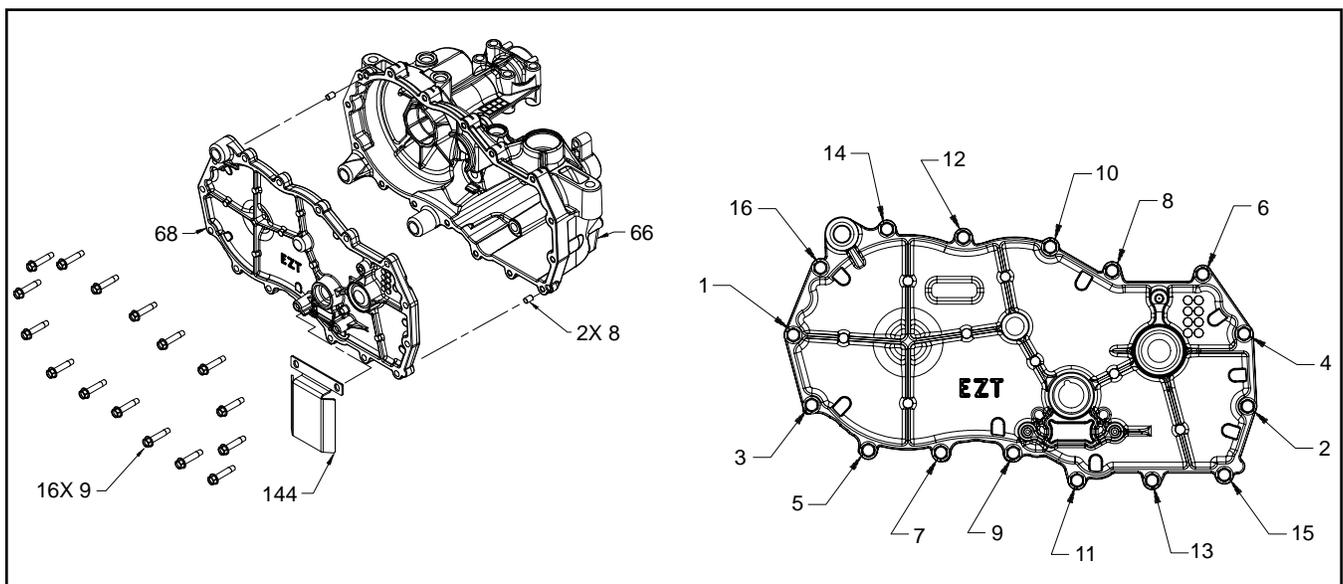

Figure 10. Side Cover
Refer to figure 10.
5. Remove the side housing screws (9) and belt deflector (144), if installed.
6. Pull the side housing (68), leaving the axle (49) and bull gear (46) assembled in the main housing. It may be necessary to use pry tools at the pry points to break loose the sealant (positions 1-16 and 4-6, Figure 10).
2. Install the locating pins (8), if not already installed.
3. Install the side housing (2). Use care not to smear the sealant bead.
4. Install the side housing screws (9) and belt deflector (144, if used). Refer to the screw tightening pattern in Figure 10 and torque specification in Table 6 on page 13.